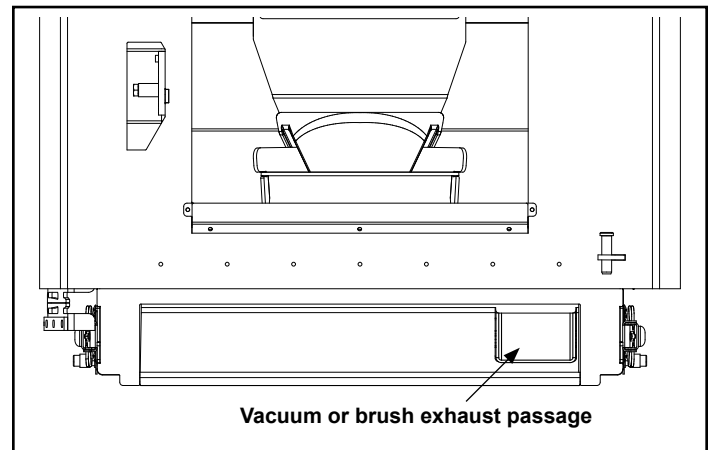

Figure 3.7
3. Guide the vacuum hose upward into the exhaust passage in the right rear corner of the firebox. Figure 3.7.